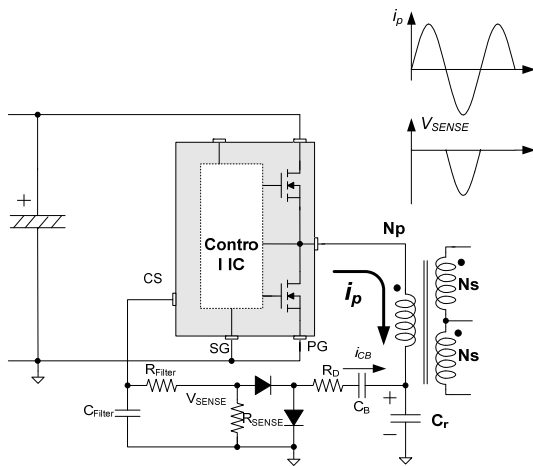

Figure 29. Capacitive Sensing
**8.2 Capacitive Sensing Method:** The drain current can be sensed using an additional capacitor parallel with the resonant capacitor, as shown in Figure 29. During the low-side switch turn on, the current,  $i_{CB}$  through  $C_B$ , makes  $V_{SENSE}$  across  $R_{SENSE}$ . The  $i_{CB}$  is scale-down of  $i_p$  by the impedance ratio of  $C_r$  and  $C_B$ . Generally,  $1/100 \sim 1/1000$  is adequate for the ratio of  $C_B$  against  $C_r$ .  $R_D$  is used as a damper for reducing noise generated by switching transition. Several hundreds of ohm to a few of kilo-ohms can be normally used.